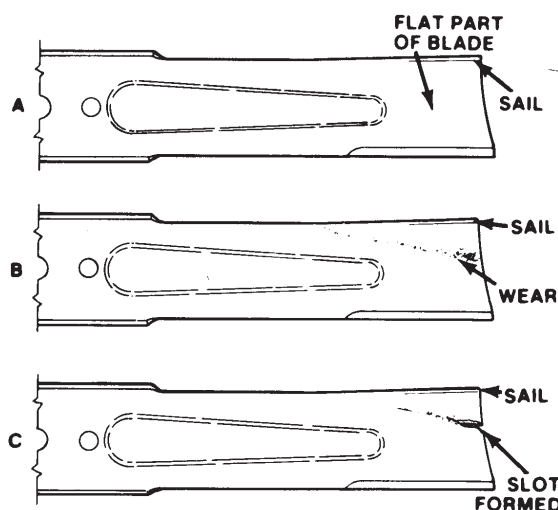

Figure 13
2. Examine cutting ends of the blade carefully, especially where the flat and curved parts of the blade meet (Fig. 13-A). Since sand and abrasive material can wear away the metal that connects the flat and curved parts of the blade, check the blade before using the machine. If wear is noticed (Fig. 13-B), replace the blade; refer to Removing the Cutter Blade, page 9.
**If the blade is allowed to wear, a slot will form between the sail and flat part of the blade (Fig. 13-C). eventually a piece of the blade may break off and be thrown from under the housing, possibly resulting in serious injury to yourself or bystanders.**